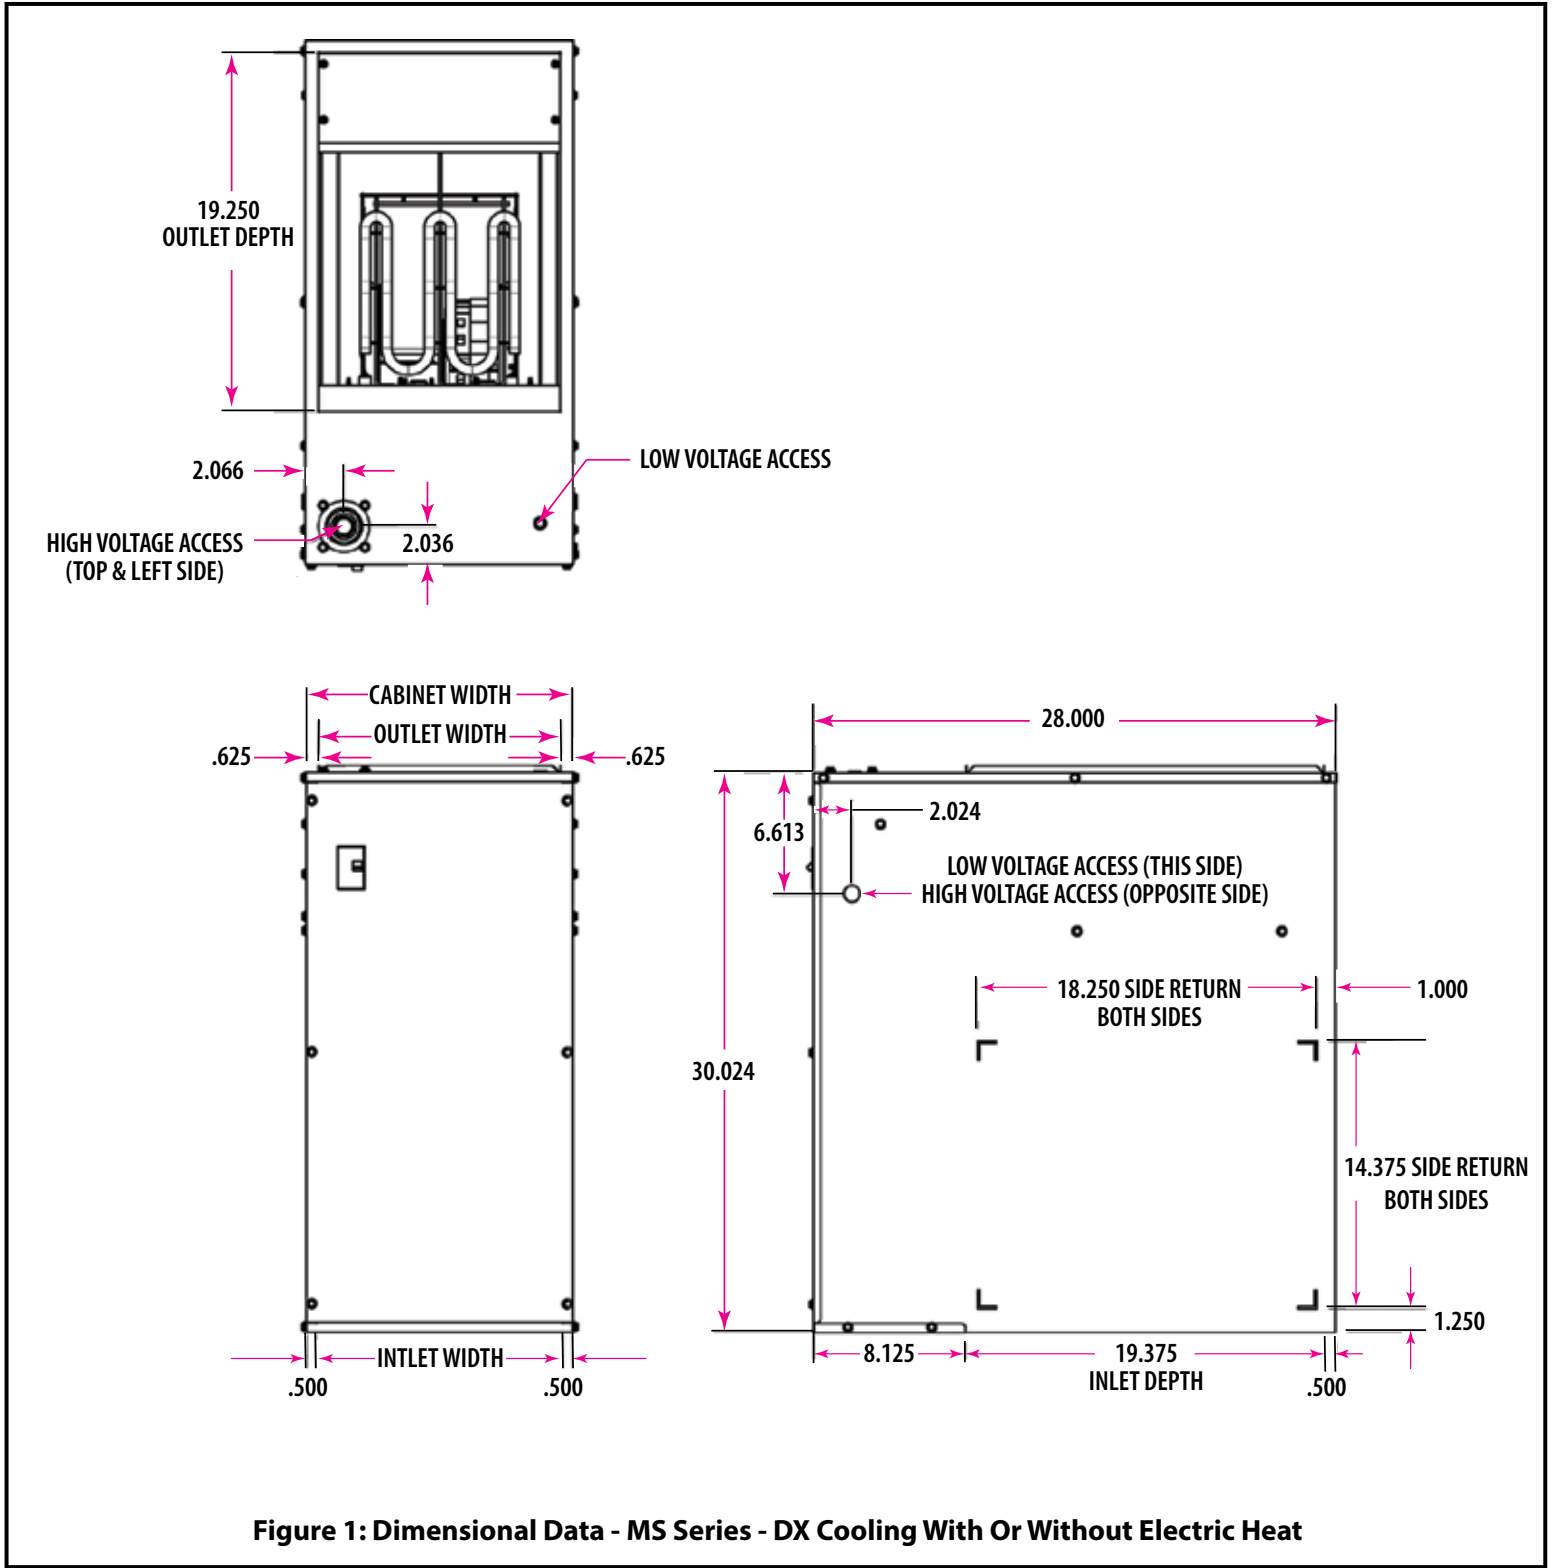

Figure 1: Dimensional Data - MS Series - DX Cooling With Or Without Electric Heat
1. Refer to the unit rating plate for the air handler model number, and then see the dimensions page of this instruction for return air plenum dimensions in Figures 1 and Tables 3. The plenum must be installed according to the above listed codes or the instructions in this manual.
Table 3: Air Handler Dimensional Data for Figure 1